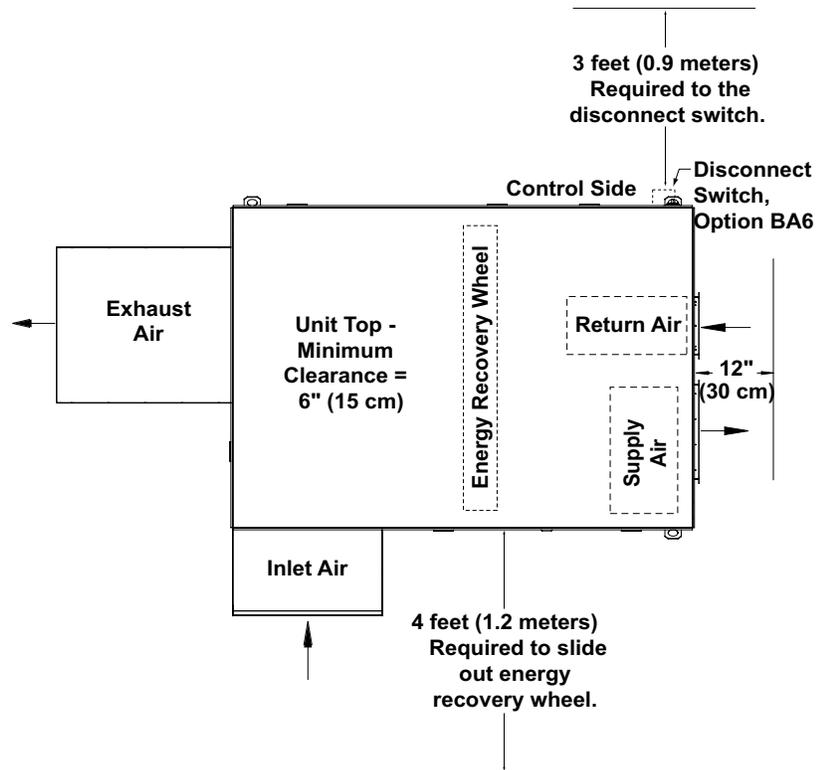

Figure 2. Minimum Service Clearances
- Be sure to comply with clearances (see Figure 2).